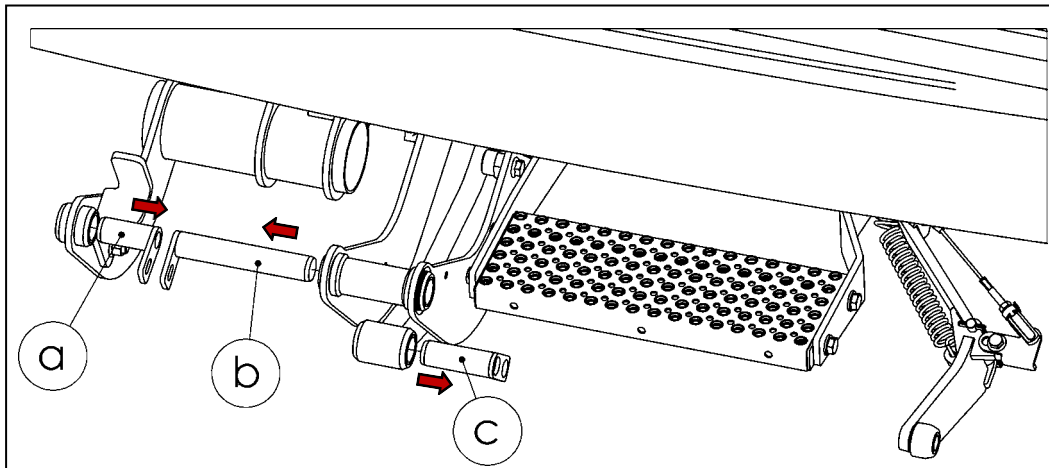

Figure 54
- Remove the pins (a, b, c) (see Fig. 54).